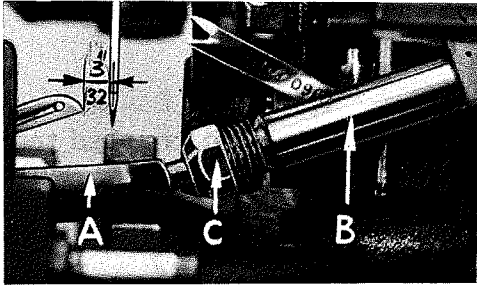

Fig. 4
At this point, insert lower looper (A, Fig. 4) into bar (B). With lower looper at left end of its stroke, set looper point $3/32$ inch from center of needle (Fig. 4), using looper gauge No. 21225-3/32. Do not have lower looper deflecting needle. Tighten nut (C).